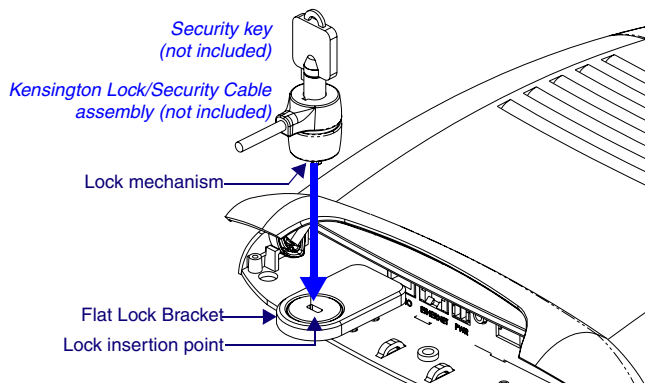

FIG. 8 Lock mechanism and insertion point
6. Open the Lock to rotate the lock mechanism so that it can be inserted into the opening in the top of the Flat Lock Bracket (FIG. 8).